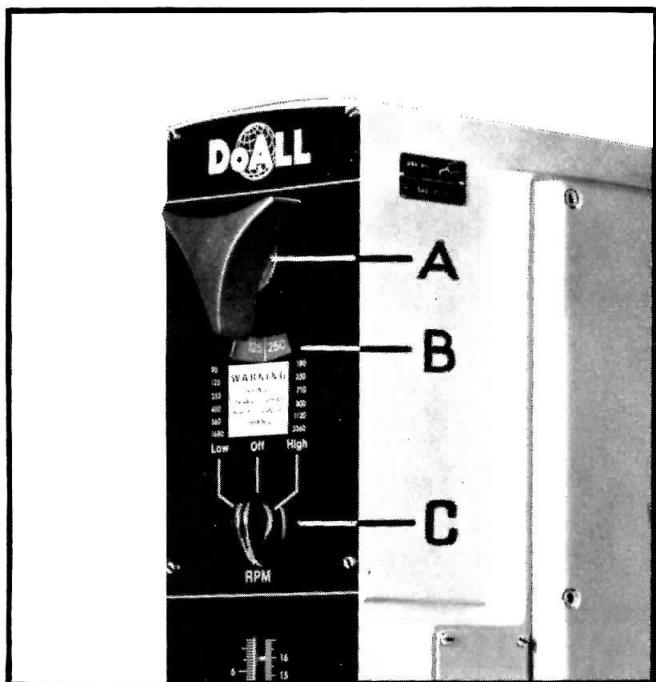

FIG. 5
The spindle speed may be selected by turning the speed selector dial (A) Fig. 5, to the right or left until the desired speed appears on the speed dial (B). When the motor control knob (C) is turned to the LOW position, spindle speeds of 90, 125, 355, 400, 560 and 1680 rpm are available. When the motor control knob is turned to the HIGH position, spindle speeds of 180, 250, 710, 800, 1120, and 3360 rpm are available. CAUTION: NEVER CHANGE SPEED WHILE THE MACHINE IS RUNNING.
**E — HEAD RAISING FEED (FIG. 5)**